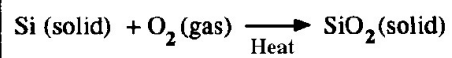

Figure 7.7 Reaction of silicon and oxygen to form silicon dioxide.
- Thermal oxide growth is a simple chemical reaction as shown in Fig. 7.7. This reaction takes place even at room temperature. However, an elevated temperature is required to achieve quality oxides in reasonable process times for practical use in circuits and devices. Oxidation temperatures are between 900 and 1200°C.